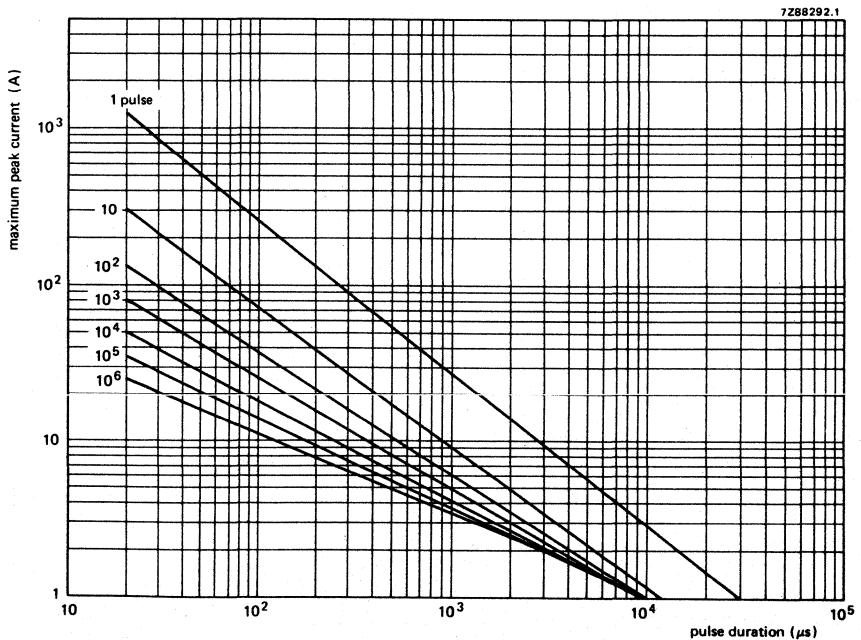

Fig. 3 Max. applicable transient current as a function of pulse duration.
- A current impulse of 8/20  $\mu\text{s}$  (defined in IEC 60-2 section 6) is used as a standard for impulse current and clamping voltage ratings. The transient energy is given for one impulse applied during the life of the component. Figure 3 gives the derating for different numbers and longer duration of impulses. The shift of the varistor voltage does not exceed  $\pm 5\%$ .